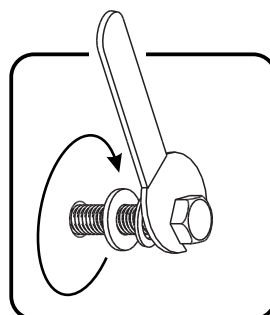

Figure 2
Attach Seat (A) to unit with Round Flat Washers, Spring Washers (small) and Bolts (small), tightening bolts only halfway. (See Figure 2)